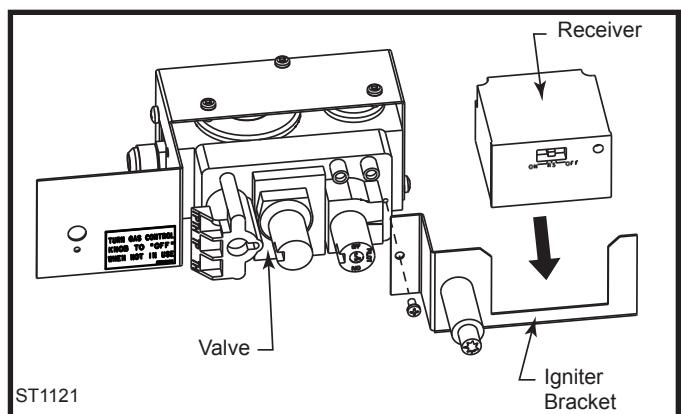

Fig. 52 Install receiver.
1. Slide receiver into igniter bracket as shown in Figure 52.